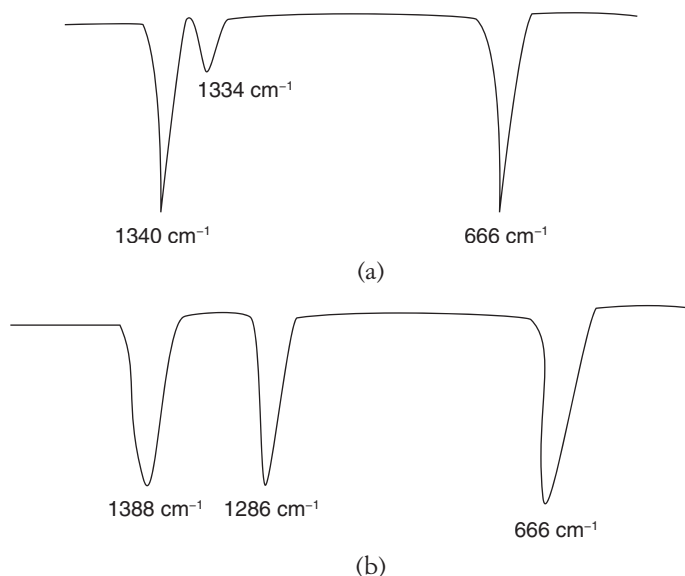

Figure 18 IR spectrum for CO_2 : (a) Without Fermi resonance (\times) and (b) with Fermi resonance (\surd).
2. **In CO_2 molecule:** For CO_2 , the fundamental bending vibration occurs near 666 cm^{-1} and the first overtone near 1334 cm^{-1} . So, the IR spectrum, if no Fermi resonance was taking place would be as shown in Figure 18(a). However, the spectrum of CO_2 molecule observed is as shown in Figure 18(b). The symmetrical stretching of CO_2 (zero dipole moment) appears in Raman spectrum near 1340 cm^{-1} . On closer examination, two bands are observed, one at 1286 cm^{-1} and one at 1388 cm^{-1} . The splitting results from coupling between the fundamental C=O stretching vibrations, near 1340 cm^{-1} and the first overtone of the bending vibration near 1334 cm^{-1} .